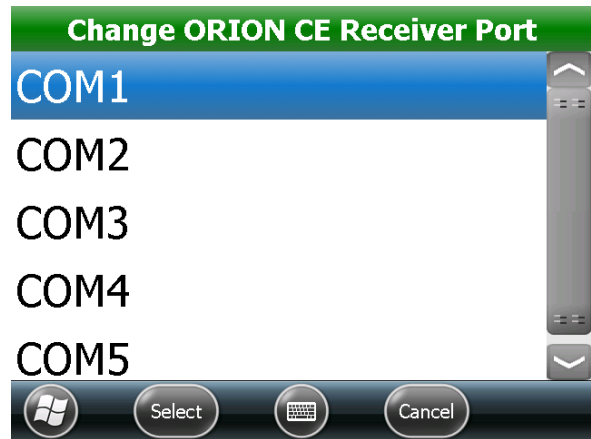

Figure 98: Select type of device
*Result: The COM port selection screen opens. The title bar shows the device you selected. In Figure 98, the ORION CE Receiver was selected.*